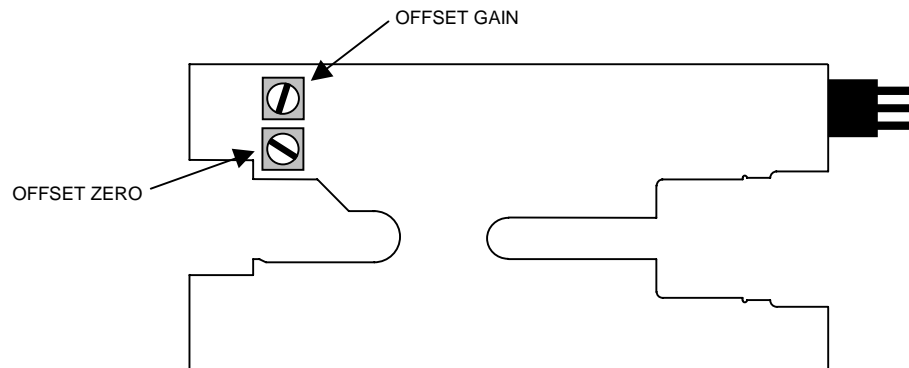

Figure 10. Adjustment Locations
6. Adjust the **OFFSET** trimmer on the AP022 board until the DMM reads 0 V \pm 100 μ V. (See Figure 10 for location)